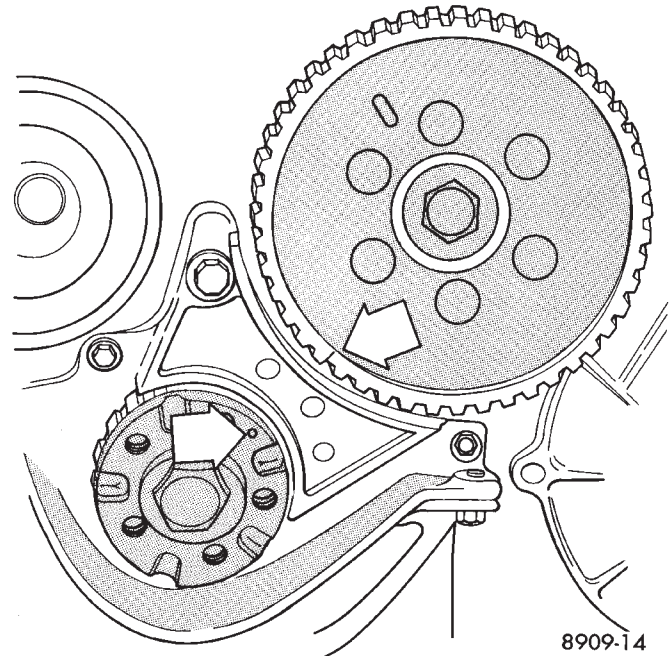

Fig. 6 Crankshaft and Intermediate Shaft Timing
(1) Apply Mopar Gasket Maker to pump body-to-block interface (machined surface).
(2) Lubricate oil pump rotor & shaft and drive gear.
(3) Turn crankshaft and intermediate shaft until markings on sprockets are in line (arrows Fig. 6).